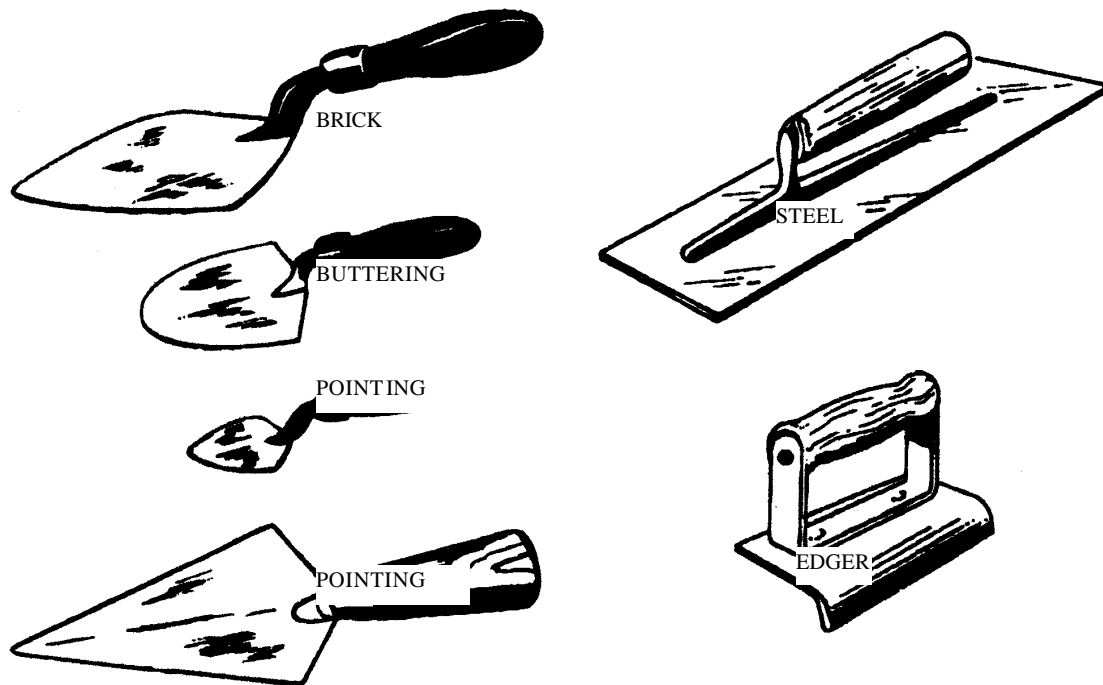

Figure 1, Types of trowels
- **Trowels:** There are many sizes, shapes, and weights of trowels. They are used to lay brick, block and to finish concrete. You should always keep your trowel clean of mortar and wipe it off with a clean oily rag if you're not going to use it for several days. Figure 1 shows some of the different types of trowels.